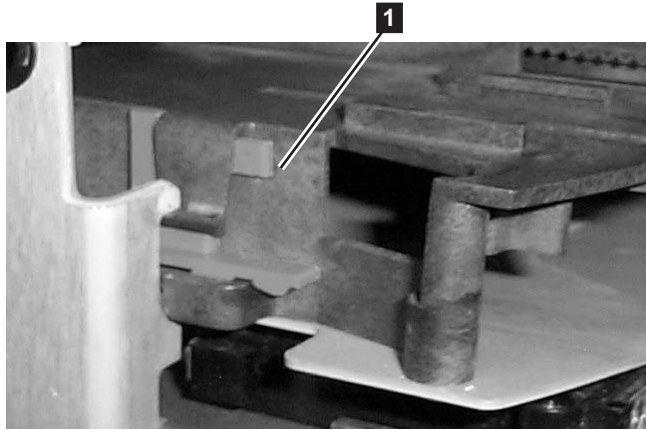

Figure 7. Gripper clips locked
- 21. Verify that the blue interlock latches on both sides of both grippers are in the forward (locked) position, as shown in Figure 7 on page 20.